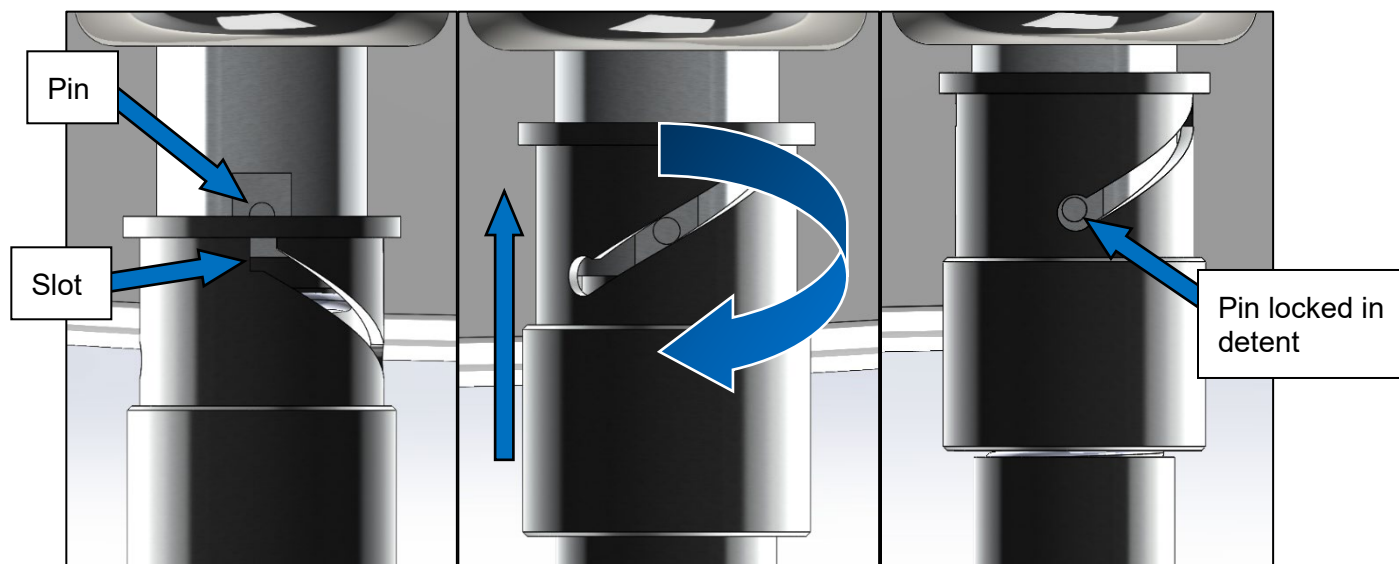

Figure 4-4. Quick Connect fiber connector attachment diagram
3. Insert the Quick Connect fiber connector, with the attached fiber, into the corresponding fiber port (labeled Nd:YAG and/or ALEX). Ensure that the pins on the Quick Connect receptacle align with the slot on the Quick Connect connector. Once aligned push the Quick Connect connector forward and twist clockwise until a click is felt and the pin is locked in the circular detent. (Figure 4-4.)
- **It is important to visually see the pin on the receptacle has locked into the detent on the Quick-Connect connector. Failing to make a proper connection can result in damage to the input end of the optical fiber.** Figures 4-4 and 4-5 show the fiber securely attached to the arm and the fiber port at the rear panel of the laser.